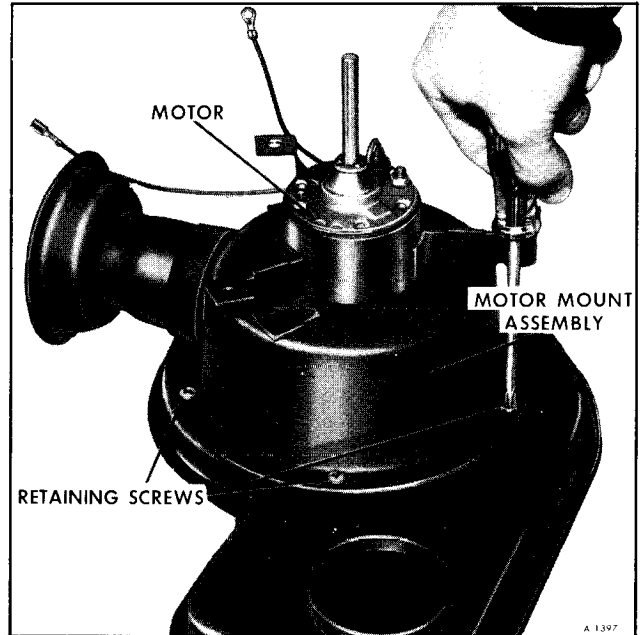

Figure 31—Removing Motor and Mount Assembly Retaining Screws
8. Remove motor mount assembly from motor cover (5 screws) (figure 31).
3. Assemble motor housing to small blower wheel housing (5 screws) (See figure 31).